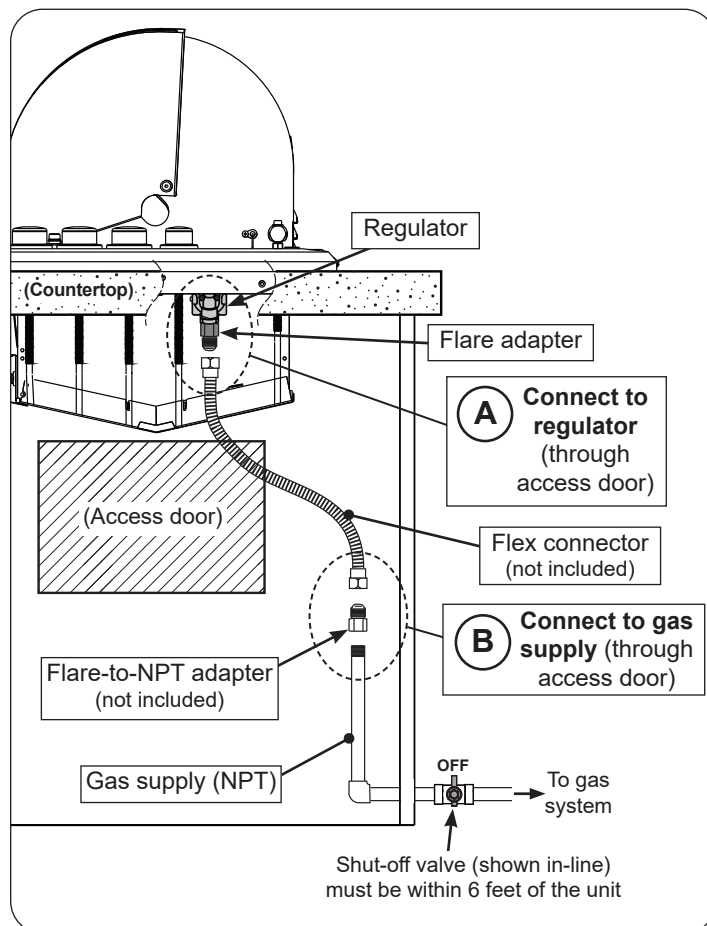

Fig. 26-1 Household L.P. & Nat. gas diagram
2. Locate the regulator found on the right side of the unit. Connect a flex connector (not included) to the 1/2" flare adapter found on the regulator. Support the regulator adapter with a wrench to avoid applying excessive torque to the assembly while tightening. Do not use pipe compound on the flare fitting. See Fig. 26-1, A.
3. Route the other end of the flex connector to the gas supply (see Fig. 26-1, B).